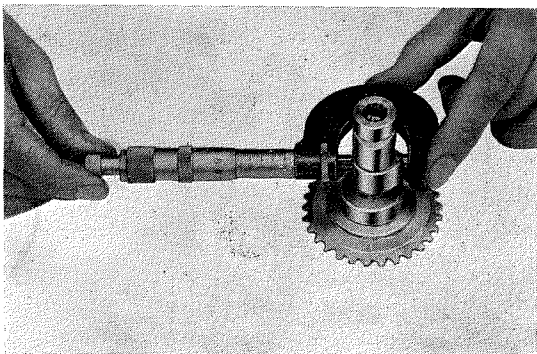

Fig. 45 Cam shaft checking
- 3) Inspect the cam shaft for scratch, worn and bending. If badly bending or worn, replace with new one. (Fig. 45)